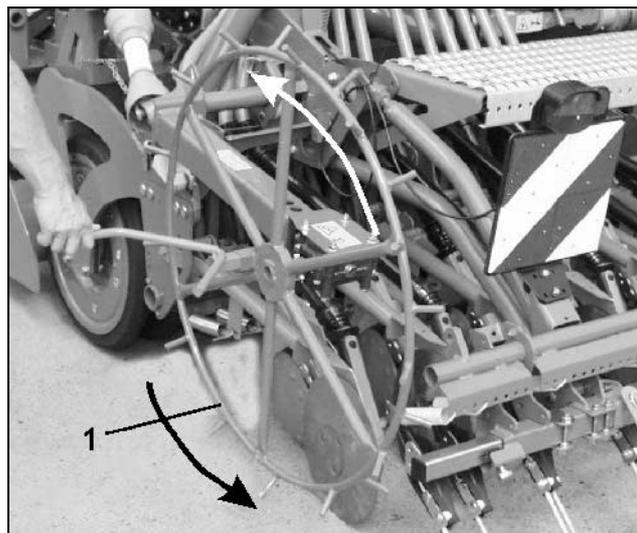

Fig. 69
- With the calibration crank (Fig. 69/1) turn the star wheel until all metering wheel housings of the seed metering wheel(s) have been filled with seed and a uniform flow of seed runs into the calibration tray(s) (Fig. 64/1).